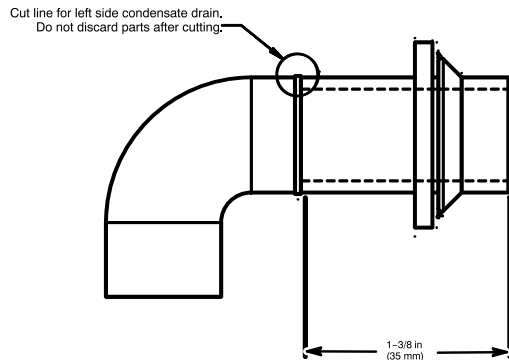

Fig. 16 – Modify Rubber Drain Elbow
3. The Z-pipe is connected to the condensate trap and the outside of the furnace by modifying the formed rubber drain elbow as shown in Fig. 16.
4. Remove the formed grommet from the rubber drain elbow by cutting the elbow along the vertical line located about 1-3/8 in. (35 mm) away from the formed grommet, see Fig. 16. **DO NOT DISCARD THE FORMED GROMMET OR THE RUBBER ELBOW.** Both of these pieces will be used.
TIP FROM CONTRACTORS: When installing the furnace horizontally, use the entire drain elbow (that is, do NOT cut as shown in Fig. 16 to connect the trap to the drain line. This helps to prevent bumps and shocks to the drain line from damaging the furnace drain trap. Avoid misalignment of the drain pipe which may cause kinks in the elbow.